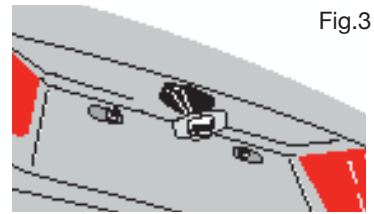
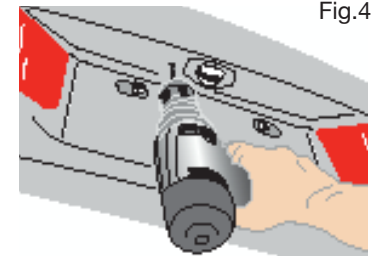

Fig.3 Using an Existing Opening for Access
Fig.4 Drilling an Access Hole
5. Some vehicle's may have a hole available to pass the wire through, (Fig.3) such as where the license plate light is mounted, or you can drill a hole close to where the power cable is attached to the camera. (Fig.4) Once you have chosen where the cable will enter the vehicle's body, remove the camera. If you are able to use an existing opening, skip the next two steps.